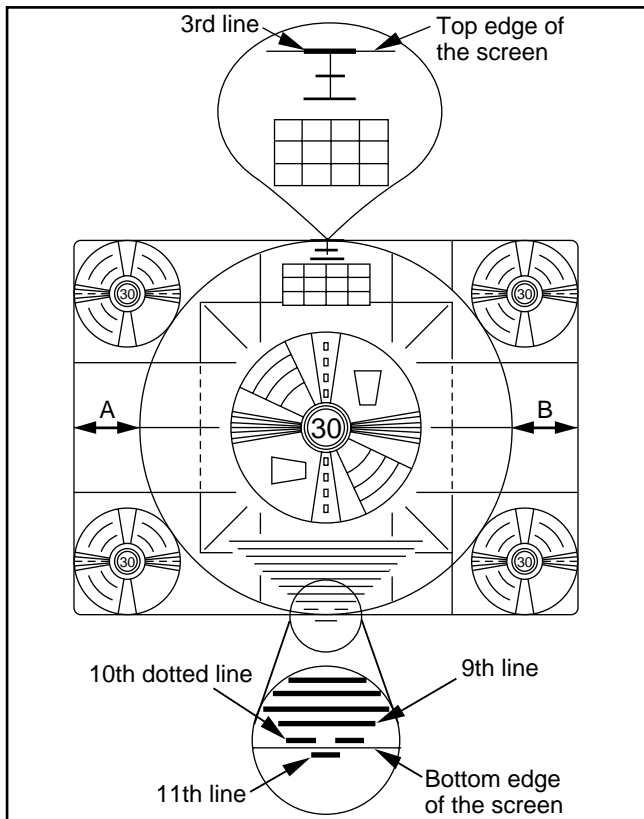

Fig. E11-1
1. Adjust R452 (V. HEIGHT) so that the top 3rd line is just in view as shown in Fig. E11-1.
3. Adjust R532 (H. POSITION) so that length A is equal to length B as shown in Fig. E11-1.